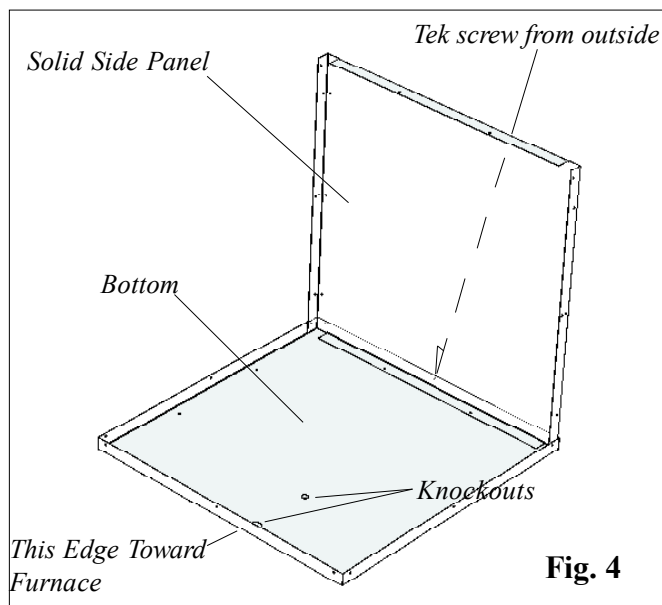

Fig. 4
1. Place the bottom on the floor. The edge closest to the knockouts will be the edge towards the furnace. See Fig. 4.
2. Place the desired vertical panel inside the bottom tray and hold into place with one Tek screw in the bottom middle hole. (solid panel shown) See Fig 4.